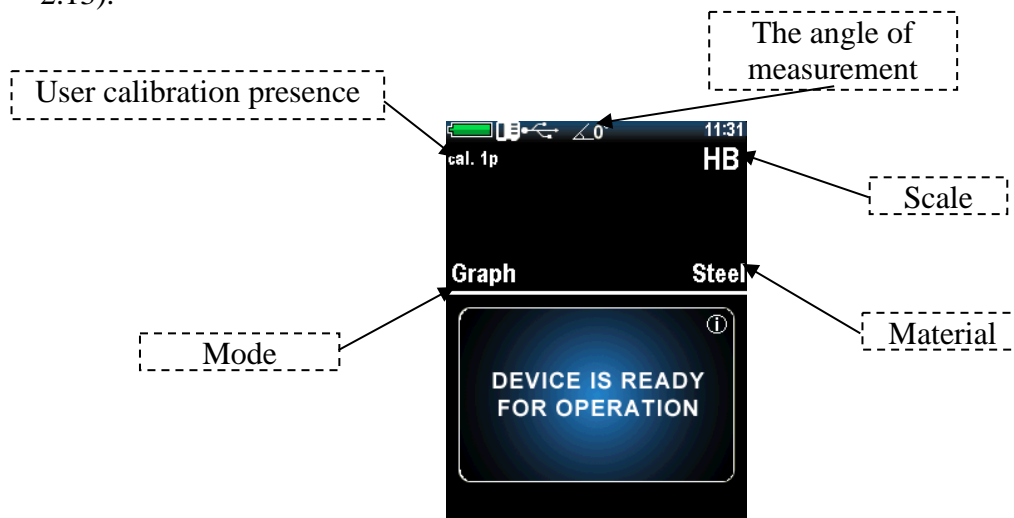

Figure 2.13 – <MEASUREMENT> SECTION
4. As the probe is connected the device opens the <MEASUREMENT> mode at once (Figure 2.13).
5. Select the required hardness scale, press  to enter the selection menu (Figure 2.13), then select the required scale with  and  keys (the Rockwell C (HRC), Brinell (HB), Vickers (HV), Rockwell B (HRB), Shore (HS), Leeb (HL), the measurement of tensile strength (σ_v) for carbon pearlite steel (MPA), user scales (U1, U2, U3)).
6. Select the required material. By pressing  open the selection menu (Figure 2.13), with the keys  and  select the required material (steel, alloy steel, stainless steel, gray iron, ductile iron (<NODULAR. IRON>) aluminum, brass, bronze, copper, user material (<USER 1>, <USER. 2>)).